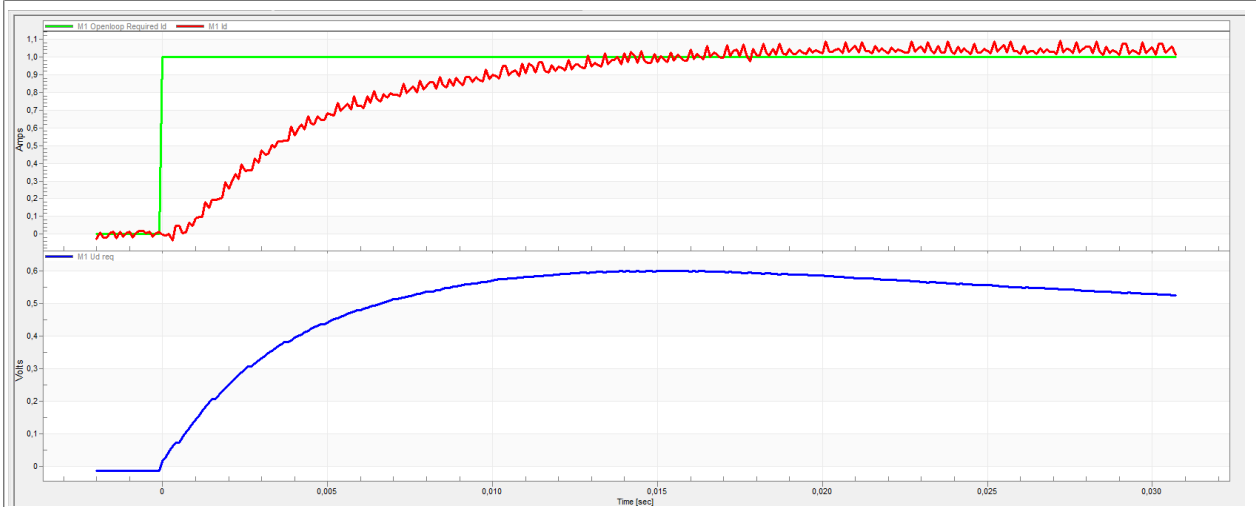

Figure 33. Slow step response of the Id current controller
- The loop bandwidth is low (100 Hz) and the settling time of the Id current is long (Figure 33).